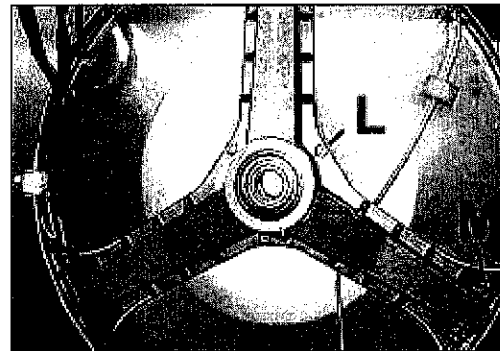

fig.9
- Take out the L screws (fig. 9) fastening the bearings' box to the back of the outer drum.
- Take out the M screws (fig. 9) fastening the bearings' box to the outer drum.